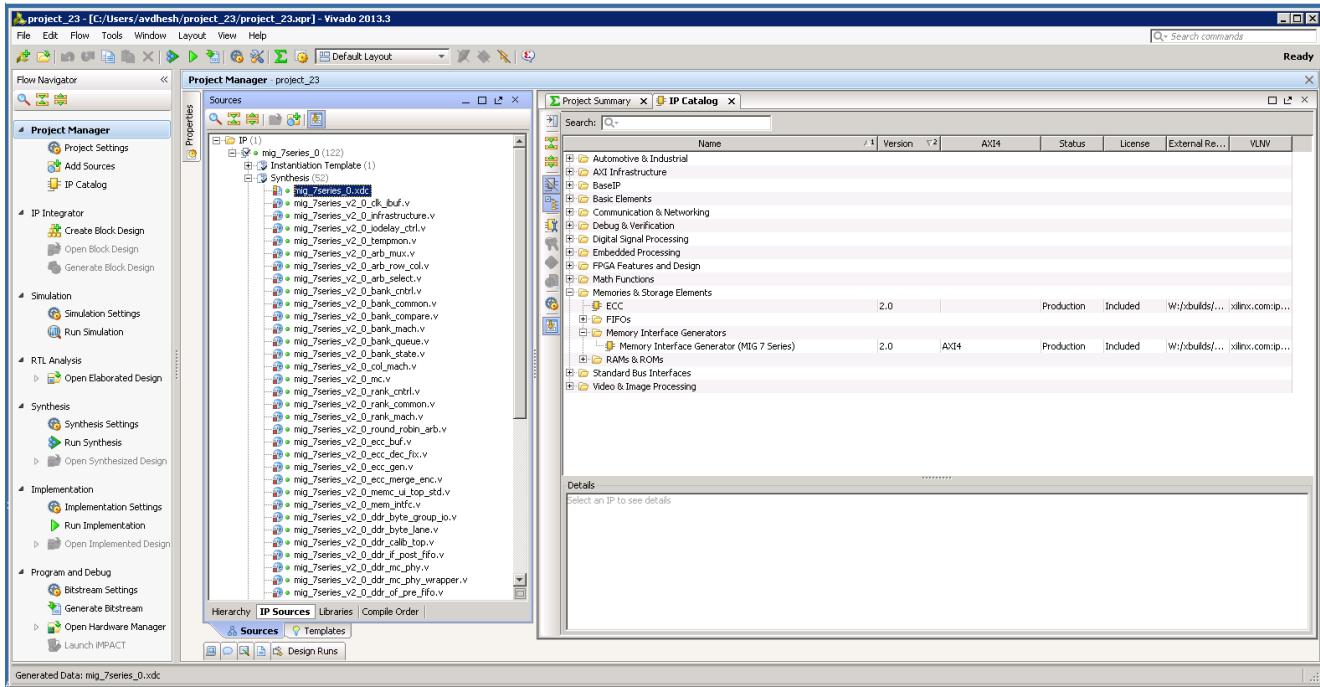

Figure 2-32: Generate RTL and Constraints
6. All MIG generated user design RTL and XDC files are automatically added to the project. If files are modified and you wish to regenerate them, right-click the XCI file and select **Generate Output Products** (Figure 2-32).